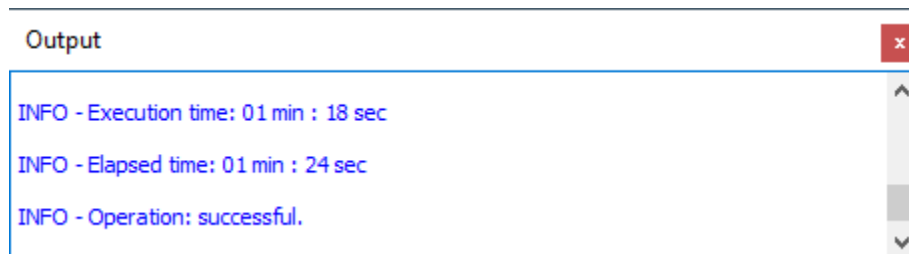

Figure 3.5. Lattice Radiant Programmer Output Window
6. Check the **Output** console at the bottom of Lattice Radiant Programmer for the result of the programming. You should see **Operation: Successful** as shown in Figure 3.5.